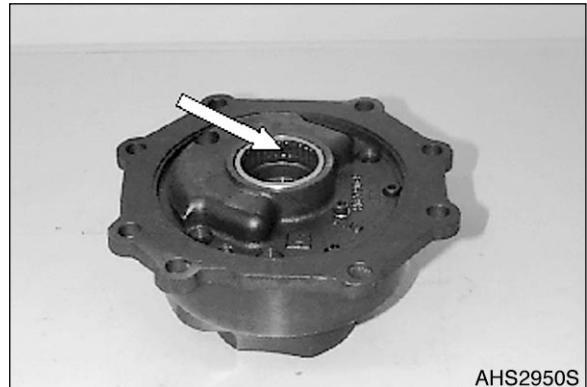

Figure 347
1. Press needle sleeve (Figure 347) against shoulder, with the reinforced shell facing the pressing-in tool.